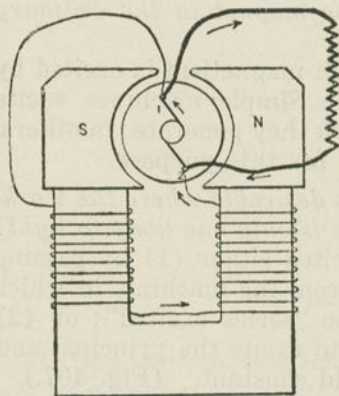

Fig. 407. Series and Shunt.
A. The magnets may be excited either (1) by passing around them all the current from the machine, in which case the machine is said to be "series excited"; or (2) by using separate generators to excite the principal one, thus keeping the magnetic field constant. (Fig. 407.)